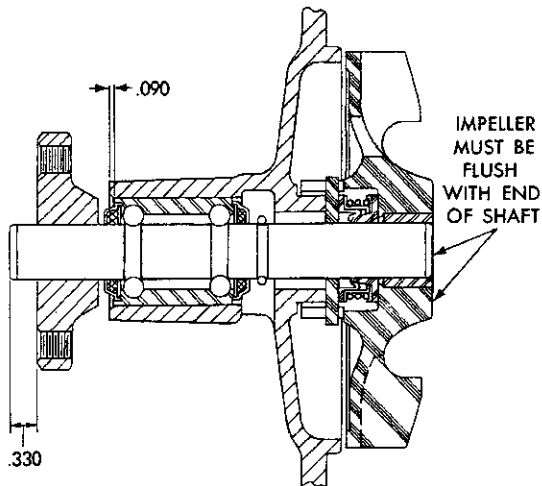

Fig. 5—Water Pump (Schematic Drawing)
The .090 inch dimension must be maintained when installing a new shaft and bearing assembly, as shown in Figure 5.
(5) Install the fan hub while supporting the pump body on the impeller and on the shaft, as this will apply pressure to the end of the shaft, and not to the body. Maintain .330 inch dimension, as shown in Figure 5.